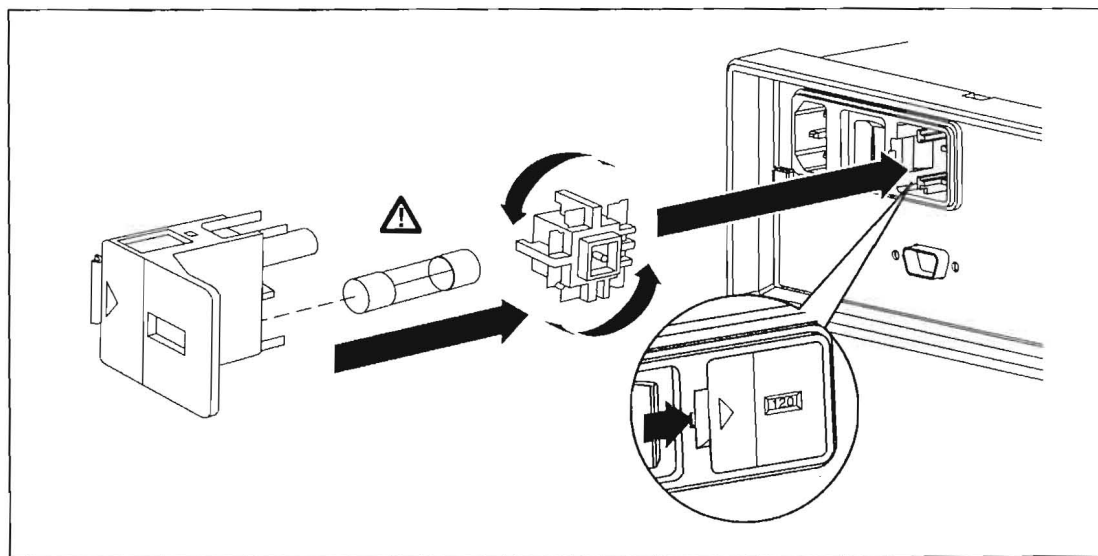

Figure 2. Replacing the Line-Power Fuse
2. Insert a small screwdriver blade into the narrow recess to the left of the fuse holder and pry it to the right until the holder pops out. See Figure 2.